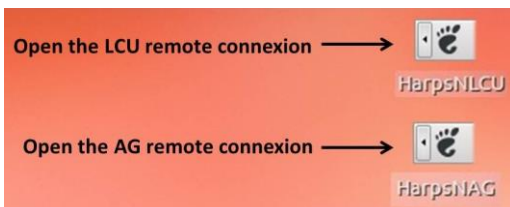

Figure 5 - WSOPER workstation desktop
- a) Click on the HarpsNLCU icon (Figure 5), or open a shell from any linux machine and type:
- c) Click on the HarpsNAG icon (Figure 5), or open a shell from any linux machine and type: